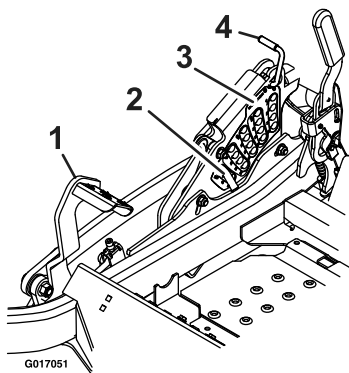

Figure 16
4. Raise and lock the deck to the 5 1/2 inch (14 cm) transport position (Figure 16).